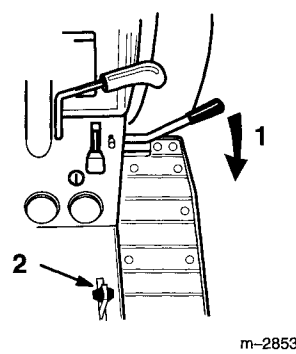

Figure 3
3. Move the PTO (power take off) to disengage (Fig. 3).
4. Move the choke to "ON" (Fig. 3).
Note: In cold weather lift up on cold start lever to declutch hydraulic pump, reducing load on engine (Fig. 3).